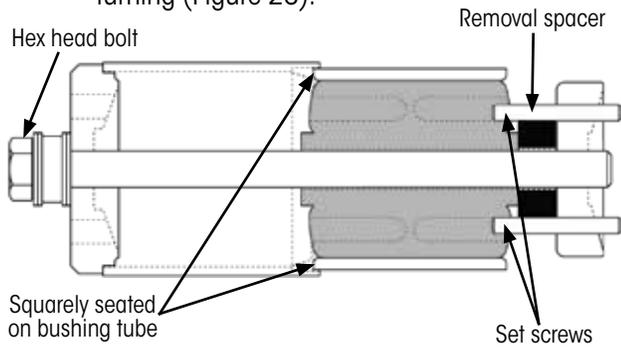

Figure 23: Wide Bushing removal
- E. **Thread** the rear drive plate putting the set screws into the bushing voids (open areas in bushing) to prevent the rear drive plate from turning (Figure 23).